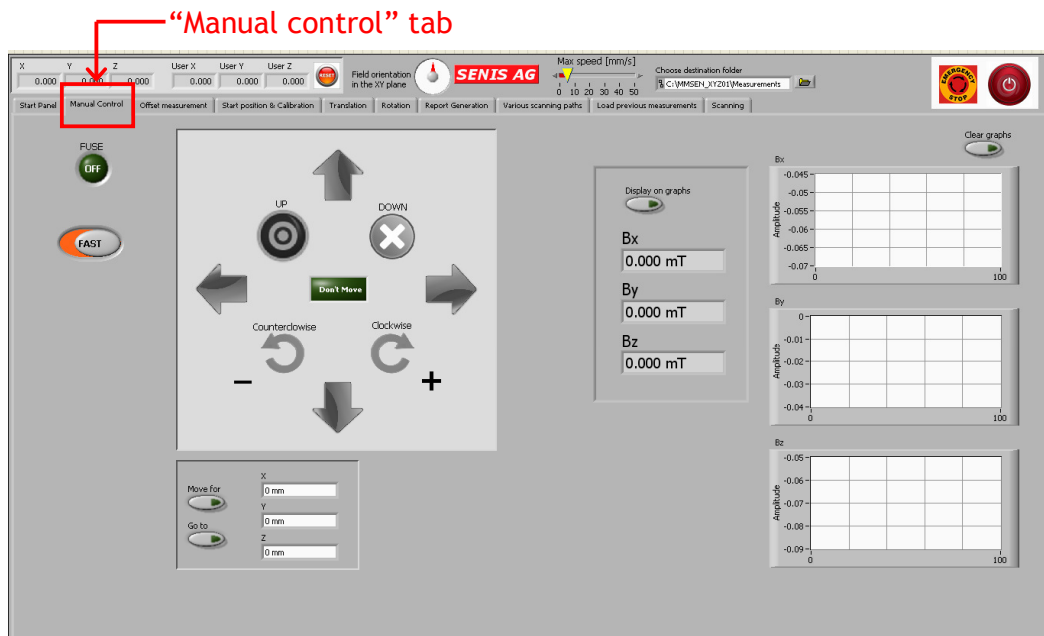

Figure 14: Selecting the “Manual Control” tab
- 5) Select the “Manual Control” tab (Figure 14);